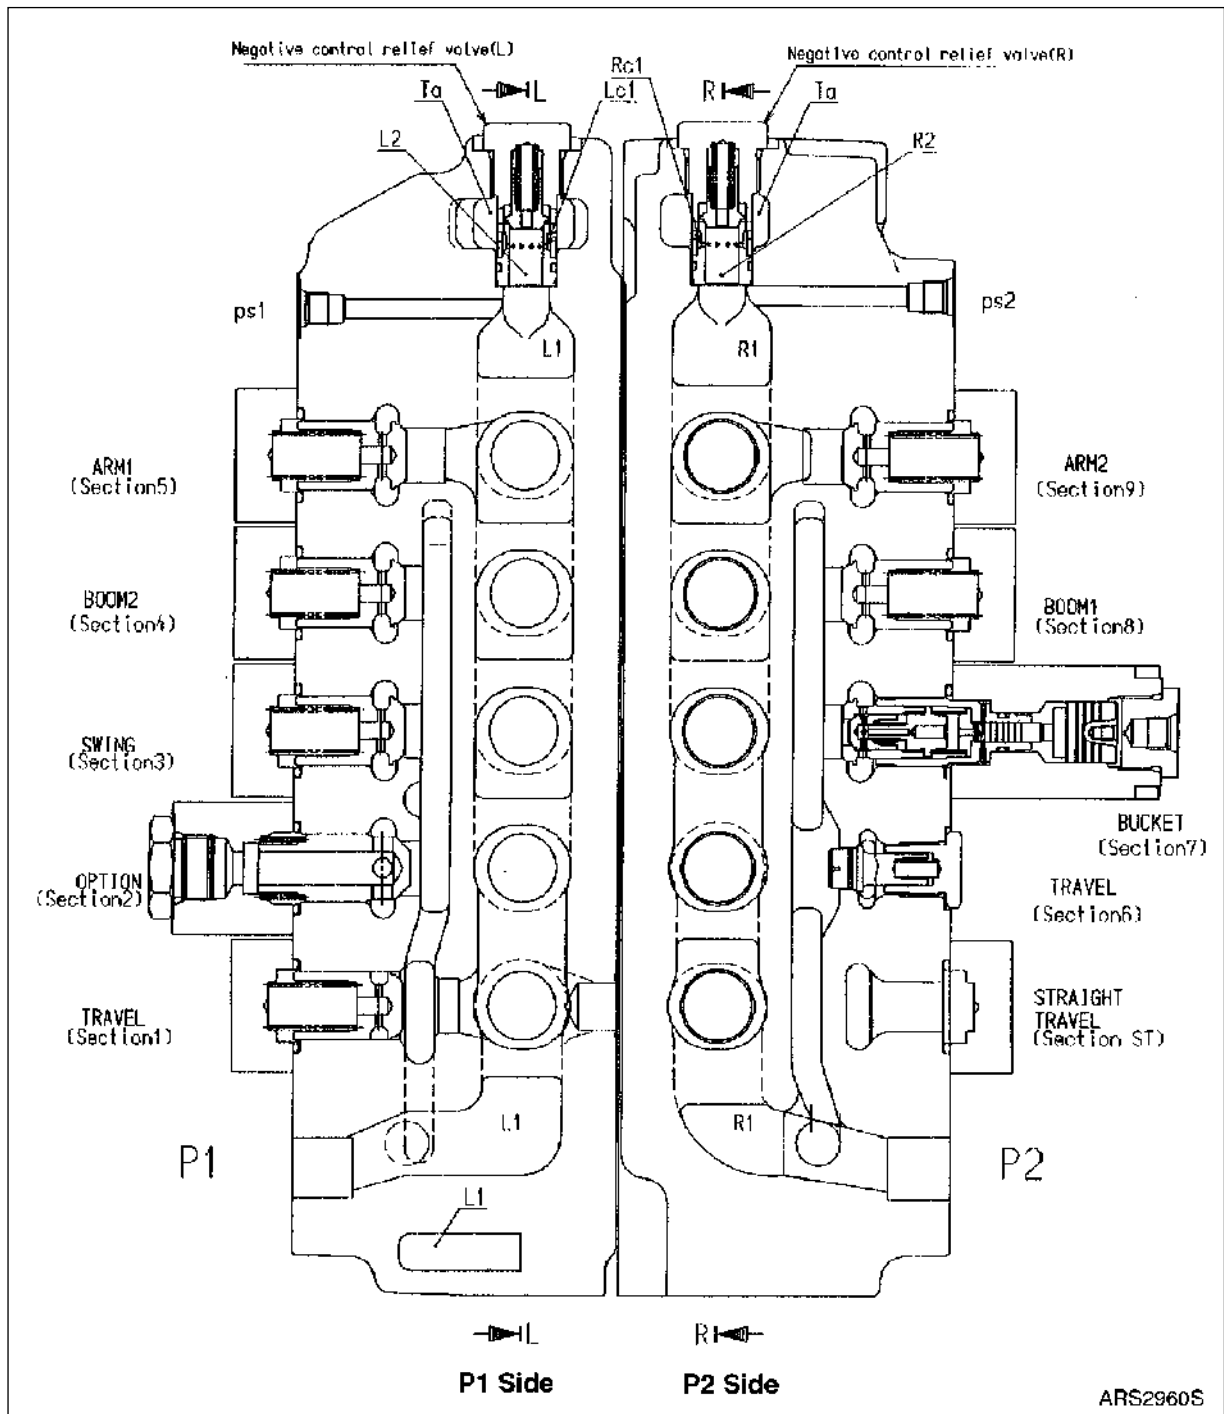
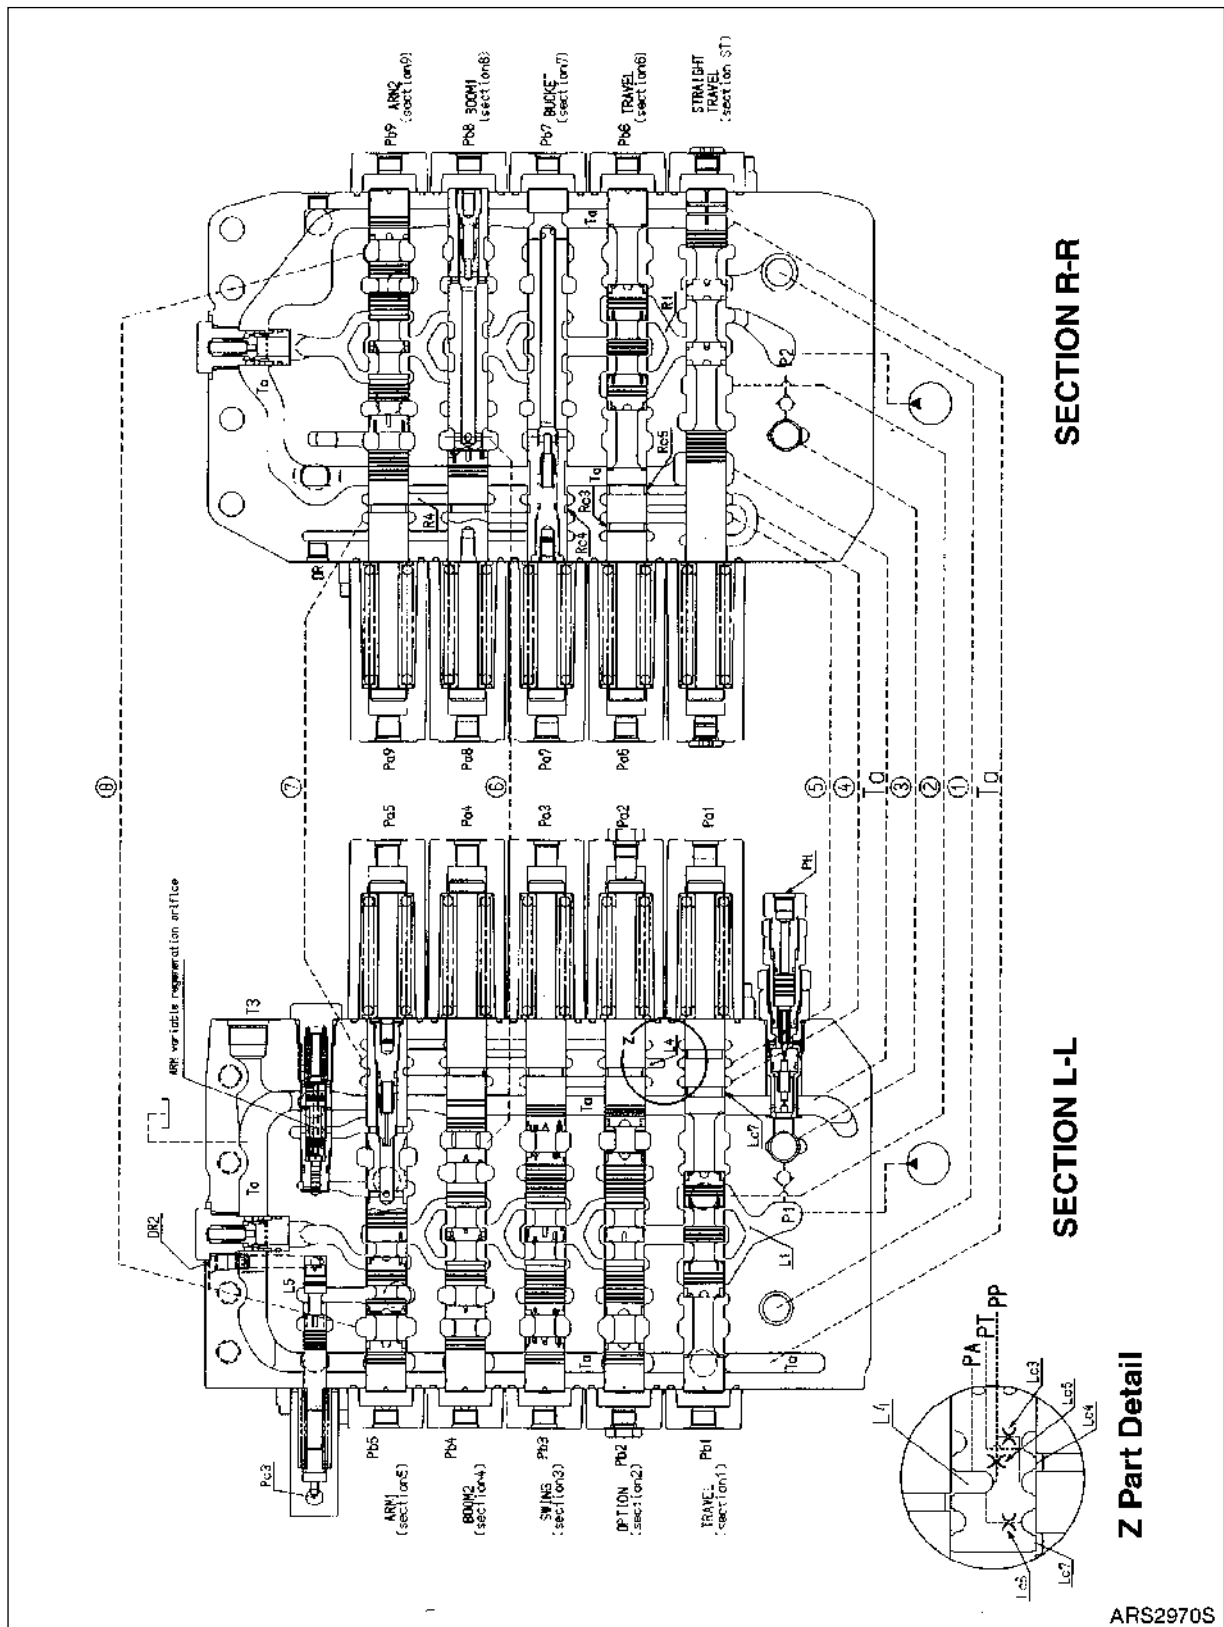
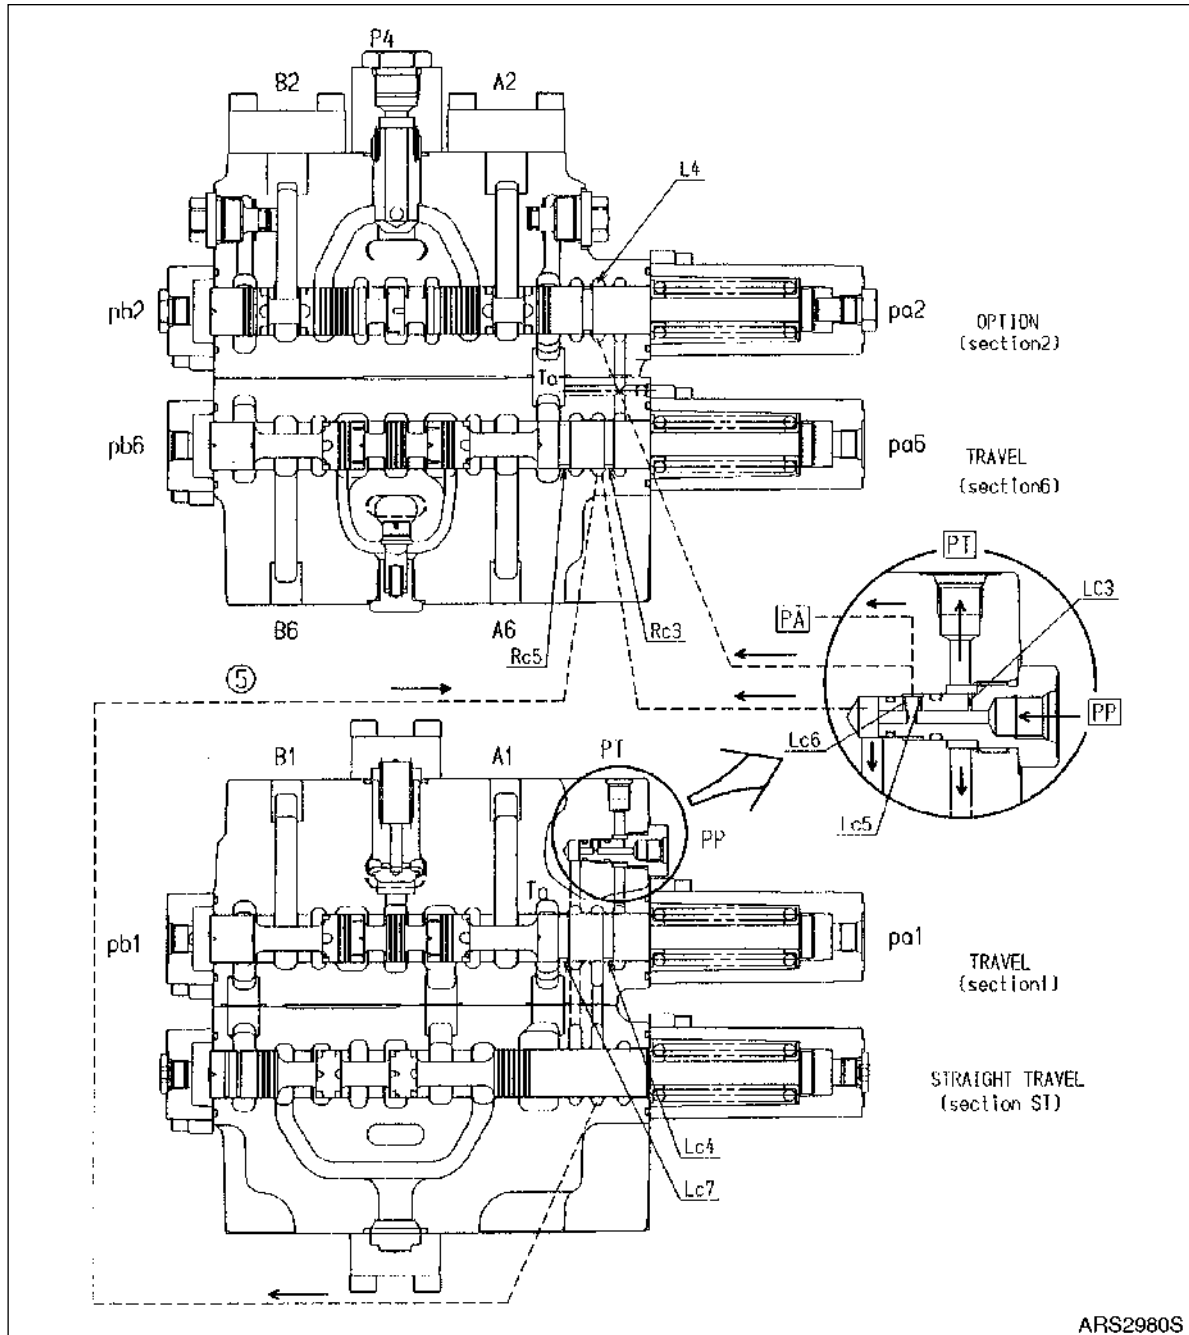

Figure 1
Figure 2
Figure 3
The oil supplied from the port (P1, Figure 1 and Figure 2) flows from the neutral passage (L1) through the low pressure relief valve orifice (Lc1) to tank passage (Ta) and flows into the ports (T1, T2, and T3).
The oil supplied from the port (PP, Figure 2 and Figure 3) flows through the orifice (Lc3) to port (PT) and simultaneously flows through the land (Lc4), the passage (5), and land (Rc3) into the tank passage (Ta). The some oil supplied from the port (PP) flows through the orifice (Lc5) into port (PA), and also flows through passages (L4)(7) and (R4) to the bucket spool land (Rc4) and flows into drain passage (DR). The oil passed through the orifice (Lc6) flows from the land (Lc7) to the tank passage (Ta) or passes through the passage (4) to the travel spool land (Rc5) and flows into the tank passage (Ta).
The orifice, which is installed in the parallel passage for the arm 1 of this valve, controls arm speed when operating the combined operation. The oil supplied from parallel passage (L3, Figure 14) of arm 1 (section 5) pushes and opens poppet (S-3), after passes through orifice (Lc8) of variable orifice A54 spool, and then is connected to passage (L5, Figure 3). From here, the flow of orifice (Lc8) can be varied by increasing the pressure against pilot poppet (Pc3).